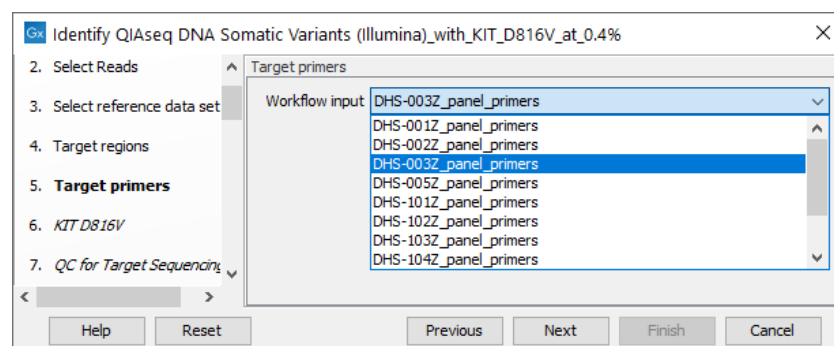

Figure 22: Select the DHS-003Z panel primers.
7. In the drop-down list of target primers, select "DHS-003Z_panel_primers", as shown in figure 22 and click on **Next**.